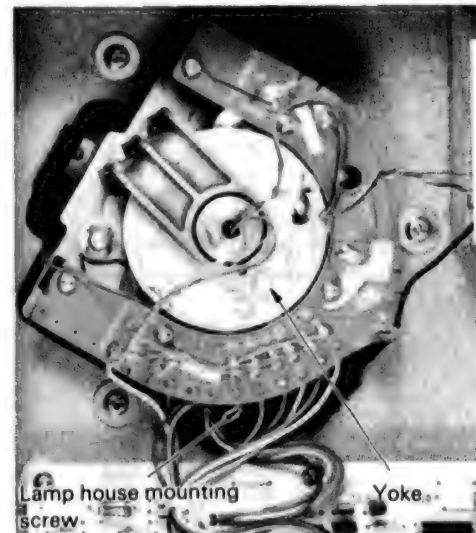

Fig. 28
■ **Removal of lamp house ass'y (Fig. 28)**